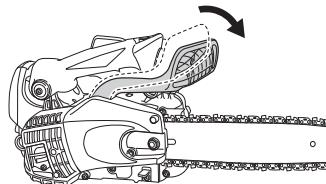

Fig. 10
1. Make sure chain brake is engaged. (Fig. 10)